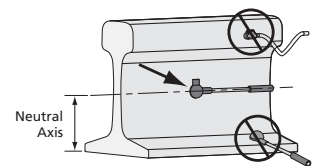

FIGURE 2
-  **WARNING:** The location of the bond is very important! Rail track connection web bonds must be made at the neutral axis of the rail. Failure to observe this may result in a rail break leading to property damage, injury or death to others. **TRACK CONNECTION BONDING MUST NEVER BE DONE ON OR NEAR THE HEAD OR BASE OF THE RAIL.** See Figure 2.